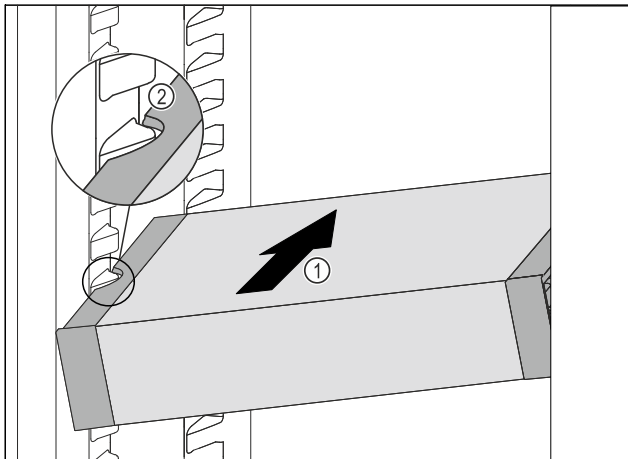

Fig. 101
- ▶ Insert the VarioSafe into the fridge section at an angle Fig. 101 (1) until the recesses in the side Fig. 101 (2) of the VarioSafe are at the level of the support rib in the fridge section.